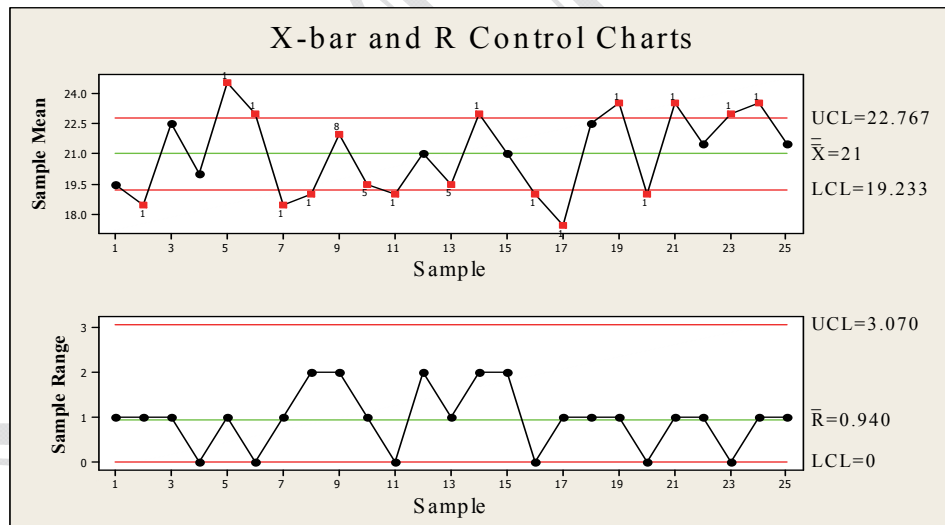

Figure 7.11: Control Charts for the Measurement Data in Table 7.2
**Solution:** (a) To determine the gage capability, we first construct the  $\bar{x}$  and R charts for the measurement data. These control charts are shown in Figure 7.11. The charts can be interpreted in the following way.
The R values show the difference between the measurements made on the same part. The out-of-control points on the R chart is an indication that the ..... measurements. For our example, the R-chart is in control (see Figure 7.11). This is an indication that .....